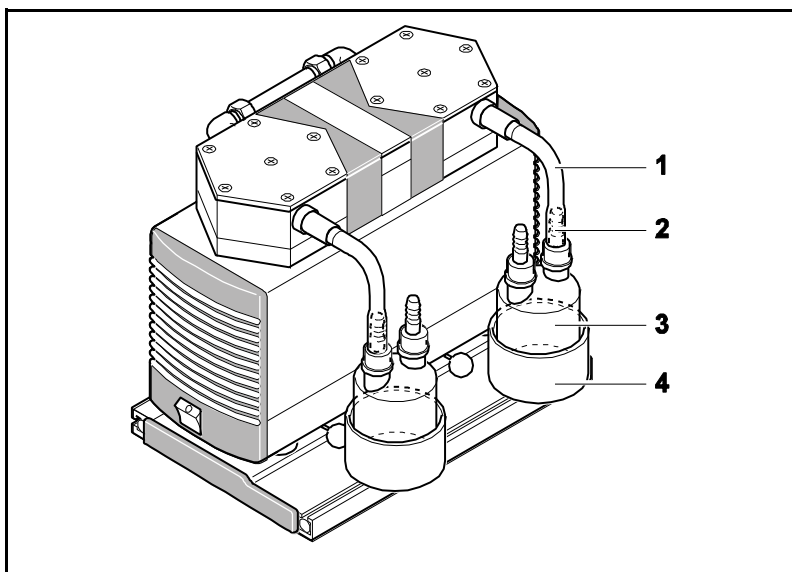

Fig. 6: Separator (shown: LABOPORT system SR with pump UN840.3FTP as example)
1. Slide the container for the separator (see fig. 6/4) into the baseplate's upward-pointing slotted bar.